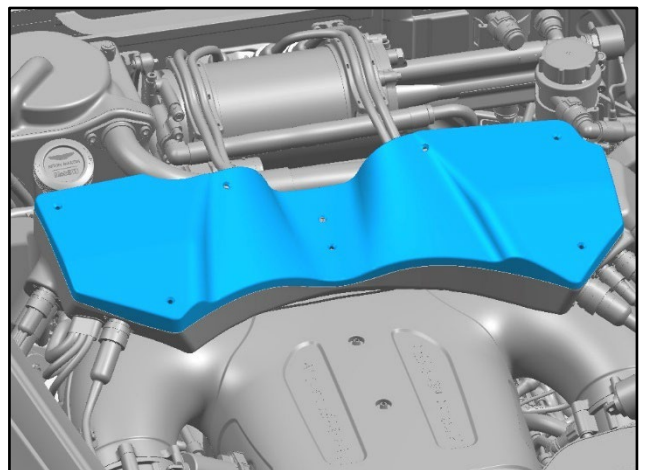

Figure 14
14. Put the fuse box lid into position (refer to Figure 14).